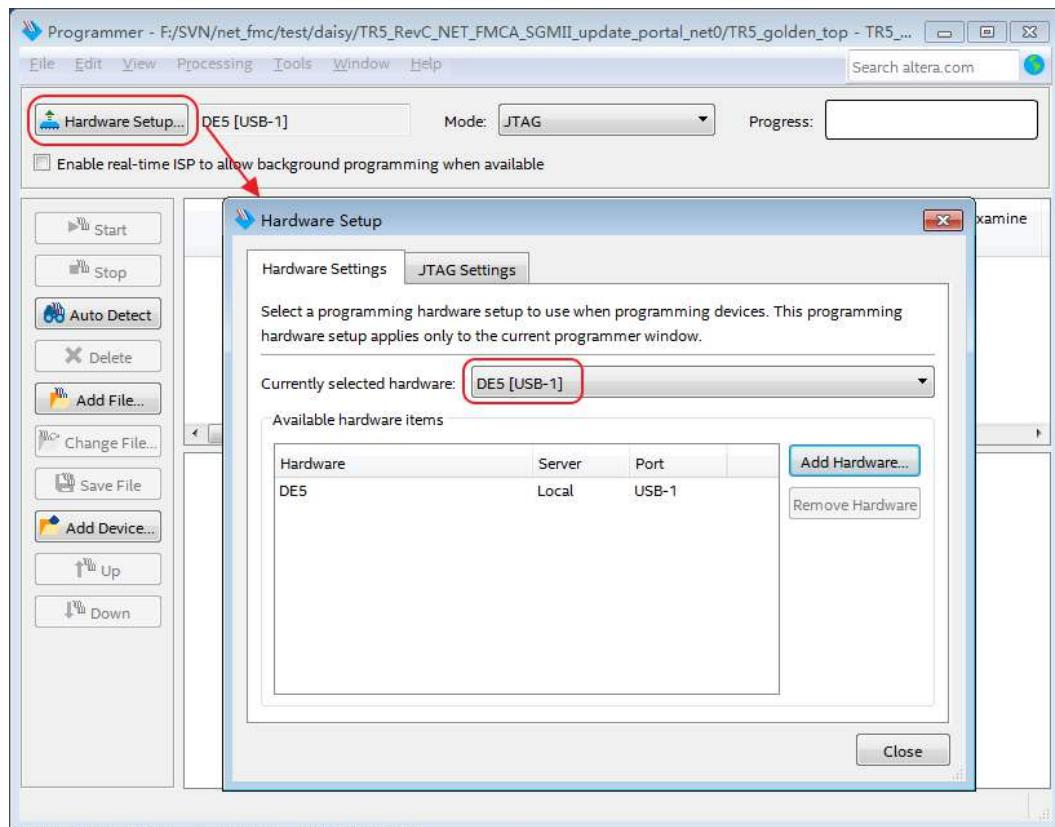

Figure 4-5 Hardware Setup on TR5
- Open Hardware Setup window and choose DE5[USB-1] as shown in **Figure 4-5**.